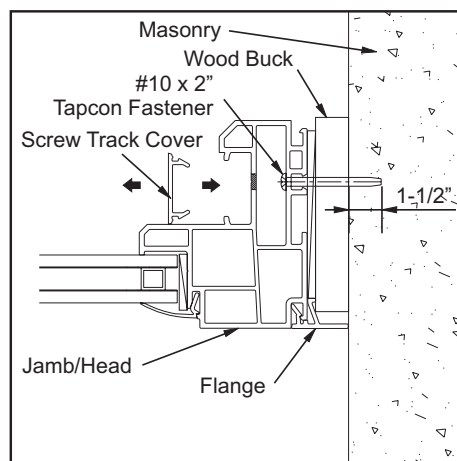

Figure PW 1
1. Remove installation screw track covers to expose the channel for installation screw locations. See Figure PW 1.
7. Replace installation screw track covers. See Figure PW 1.